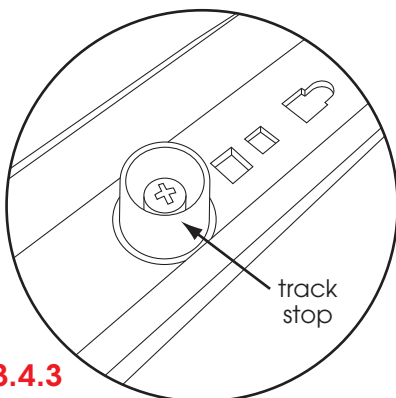

Fig: 3.4.3
- g) Install the safety stop at the end of the horizontal track as shown in Fig 3.4.3.